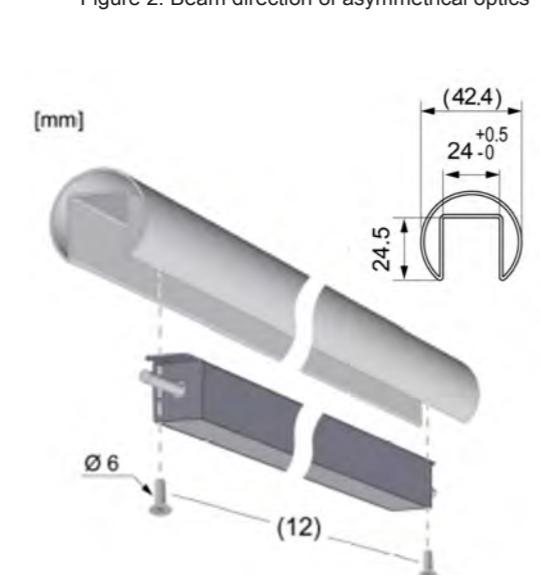

Figure 2: Beam direction of asymmetrical optics
-  When mounting, note that there are two luminaire versions. The label on the luminaire (15) indicates the beam direction and the side on which the input cable is attached (Figure 2).